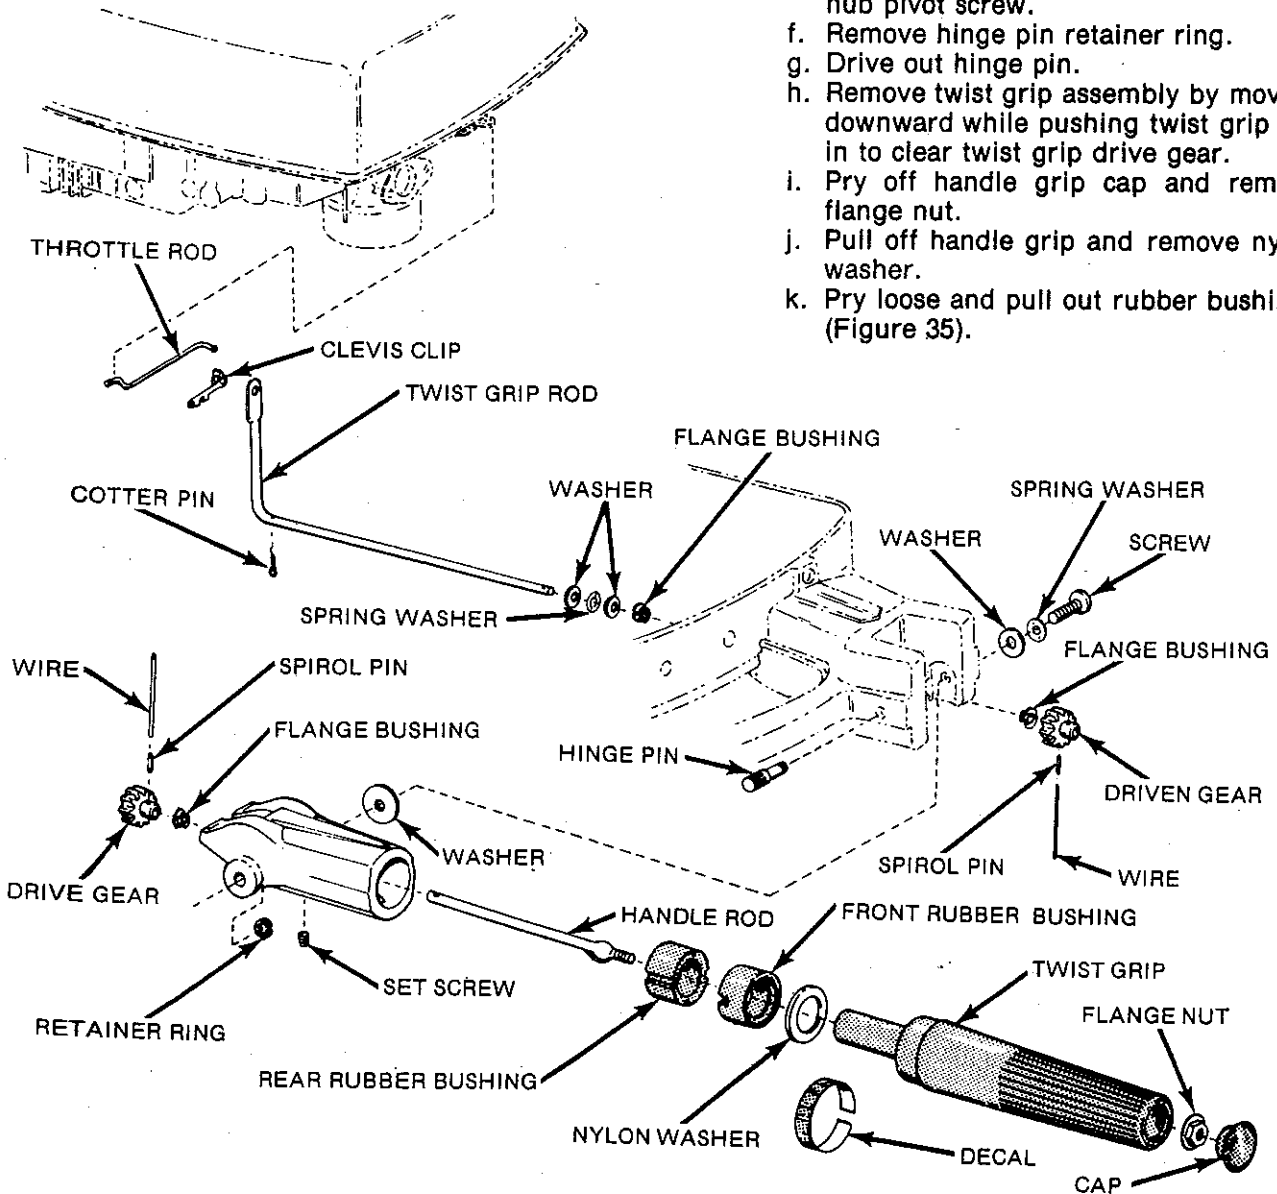

Figure 38
- (4) On Deluxe models manufactured during 1978 and later, proceed as follows:
- c. Remove driven gear wire retainer and drive out spirol pin in driven gear (Figure 38).